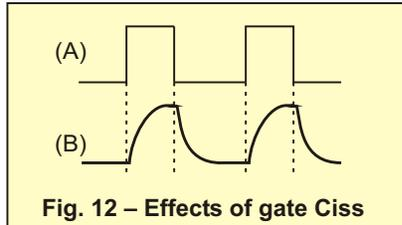

Fig. 12 – Effects of gate Ciss
Applying a square wave to the gate, C_{iss} must charge before the voltage appears across the gate-source junction. This is illustrated in Figure 12, where (A) is the input square wave, and (B) is the true gate voltage, that is, the voltage impressed across the internal gate capacitance. The resulting drain current would appear virtually the same as waveform (B).